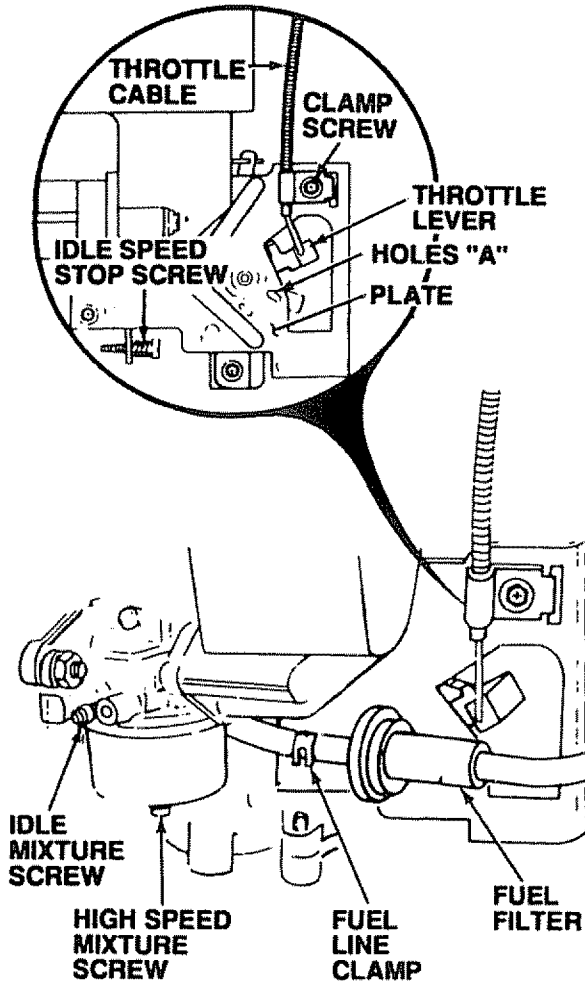

FIGURE 20
- Check that hole in throttle lever and hole in plate line up (Fig. 20 - Insert). If holes "A" are not aligned, loosen clamp screw and move throttle cable until holes are aligned. Tighten clamp screw.
- With engine cool, remove filter and plug fuel line sections that were removed from both ends of fuel filter (Fig. 20).